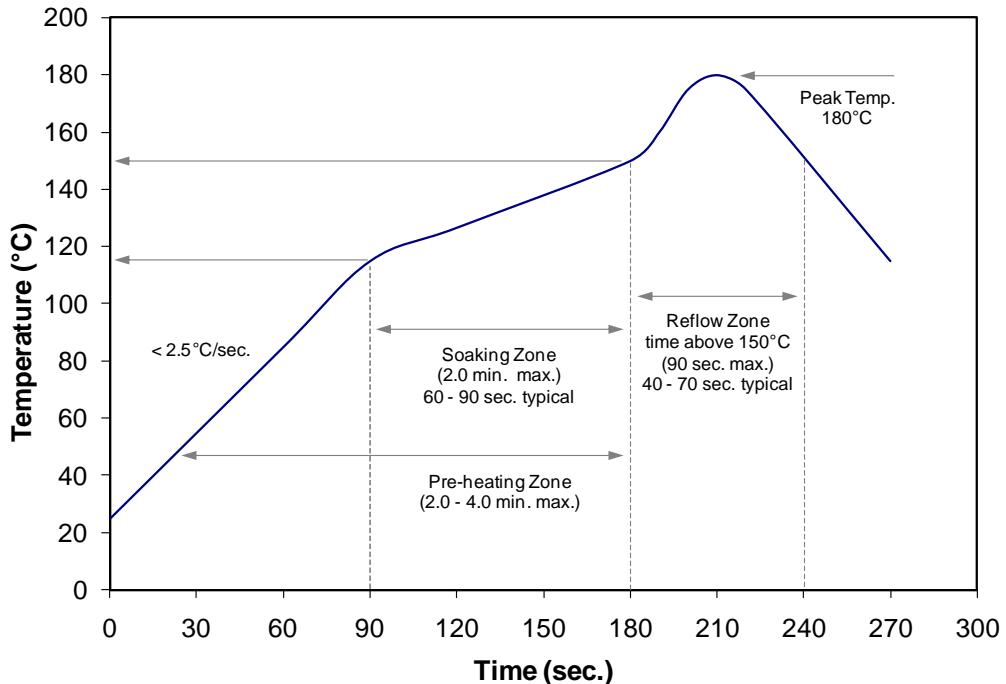

Figure 3: Reflow soldering profile for lead free soldering.
4. Solder conditions per JEDEC 020D. See Reflow Soldering Profile Figure 3.
Notes for Figure 3: